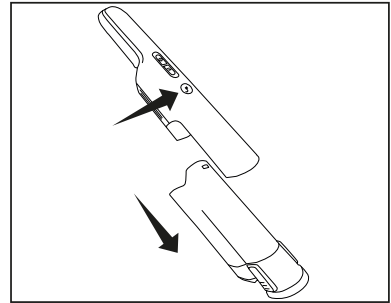

Fig. 1
1. Remove the dust bin from the vacuum (Fig. 1).